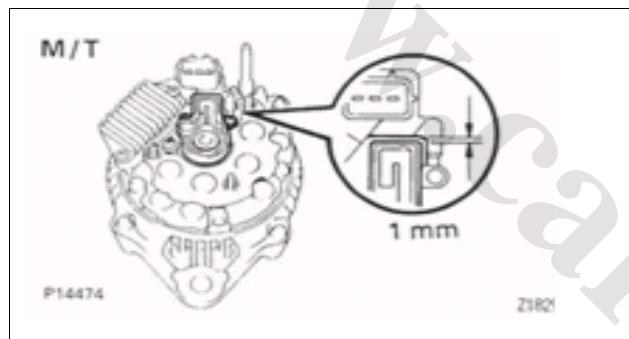

Figure 442
- Install 5 screws and make the clearance between the brush holder and the connector about 1mm (0.04in). (see Fig.442**Figure 442**)